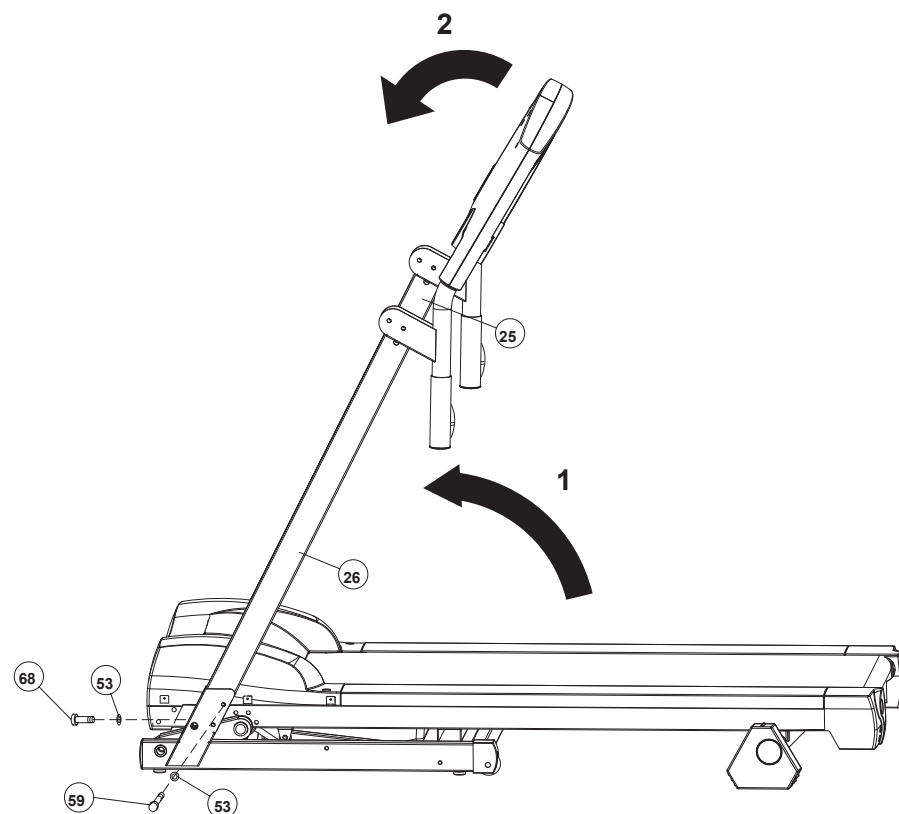

Fig. 6
Raise the Right and Left Uprights (25 and 26) and secure with Washers (53) and Bolts (59 and 68). (Fig. 6)